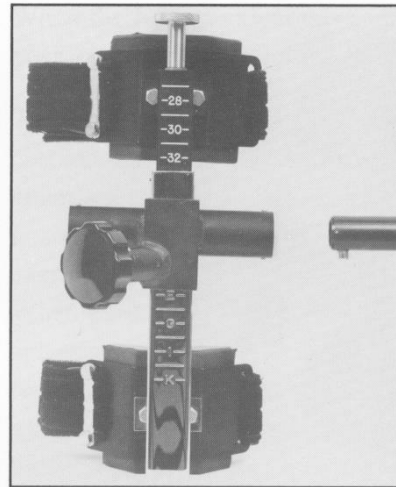

Figure 17
6. The removable pivot tube assembly (I) allows the anti-shear accessory to be in an upright position (knurled aluminum knob on top) when exercising the left or the right knee.
To remove the pivot tube assembly (I), press in the push button (J) on the end of the tube. Slide the tube out of the fulcrum assembly (D). See Fig. 17.